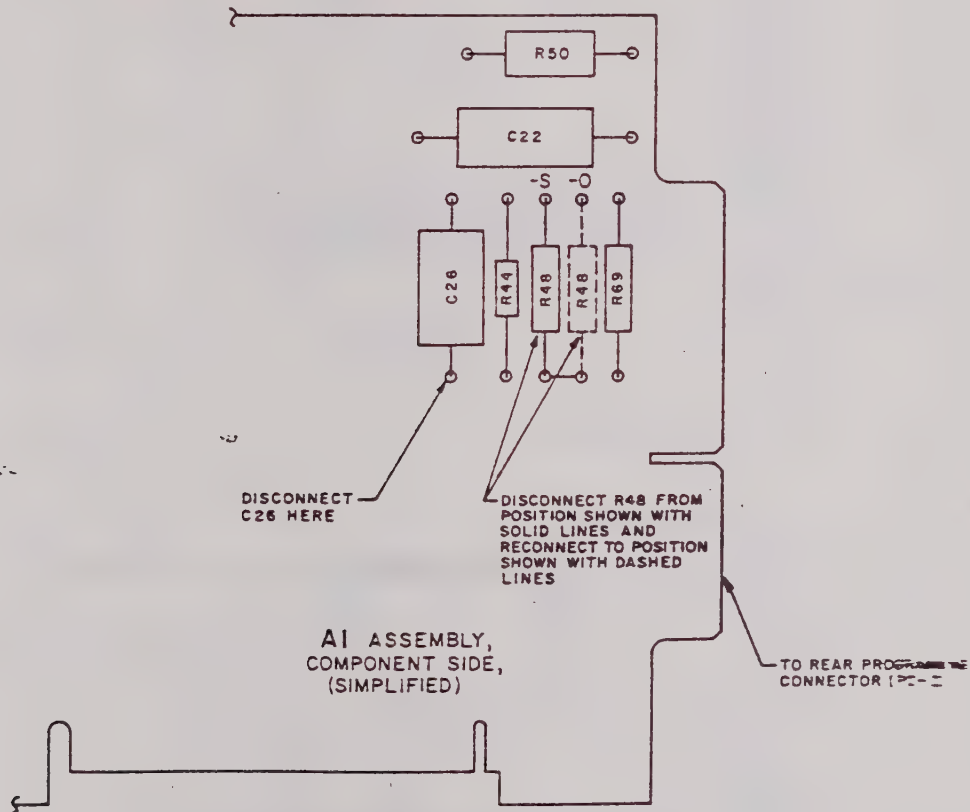

FIG. 3-27 LOCATION OF OVERVOLTAGE SENSING LEAD DISCONNECT.
3-113 The problem encountered in operating power supplies with overvoltage detection circuits in a redundant parallel configuration is that the overvoltage sensing leads are usually permanently wired to the error sensing leads. Now an overvoltage occurs on *either* power supply, *both* supplies will shut down, defeating the purpose of the redundant circuit. In the ATE power supplies, provisions are made on the control circuit P.C. card (A) to disconnect the overvoltage sensing from the error sensing terminal, reconnect it to the output terminal and remove C26, thus successfully solving the problem described. (See FIG. 3-27).
- 1) Remove covers from both ATE power supplies, locate A-1 P.C. card and rewire overvoltage sensing as described in par. 3-113 and as illustrated in FIG. 3-27. Remove capacitor C26 as described in par. 3-113 and as illustrated in FIG. 3-27.